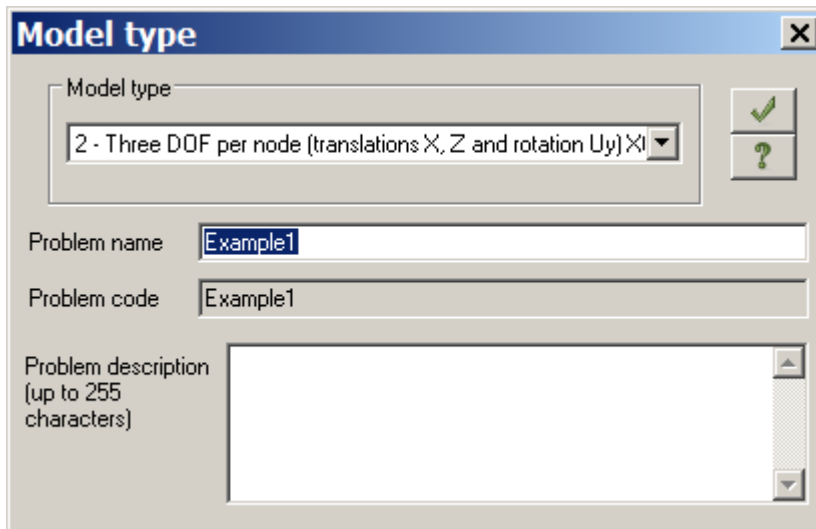

Figure 1.4 **Model type** dialog box
- ⇒ In the **Model type** dialog box (see Fig.1.4) specify the following data: